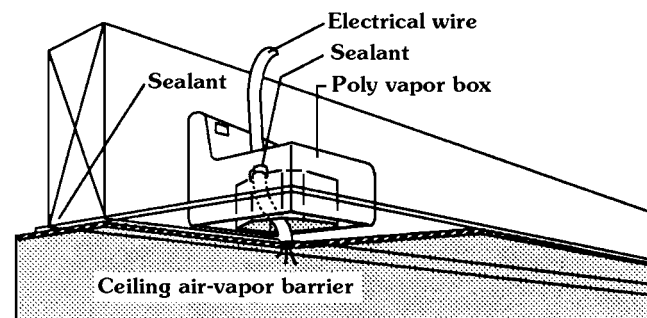

Figure 7.12: Using a polyethylene "hat" to seal an electrical box in the ceiling
- Placing the electrical box in a pre-fabricated polyethylene envelope (poly hat) (Figure 7.12).